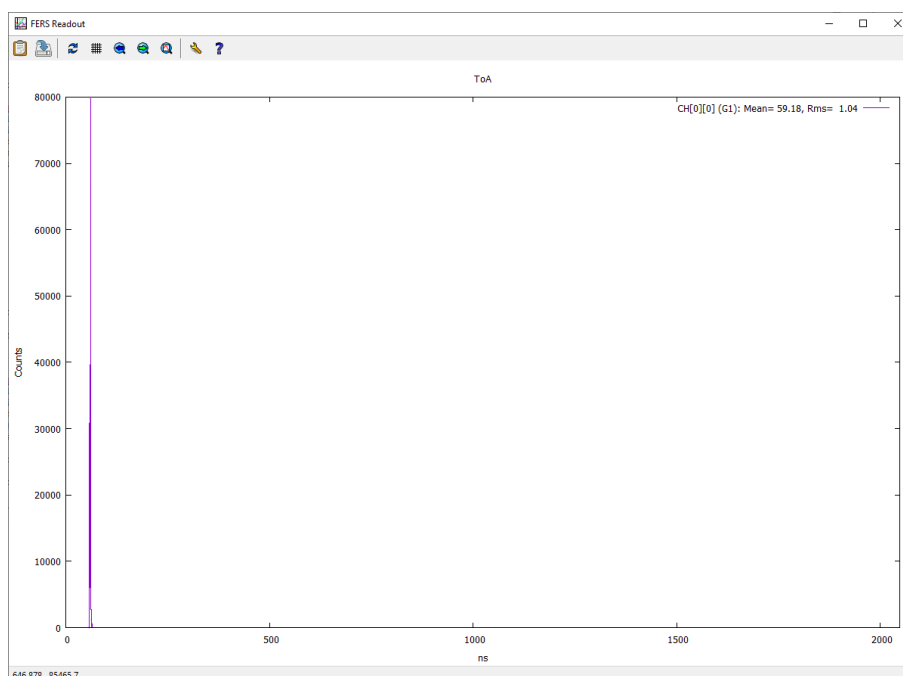

Fig. 10.29: Example of Time of Arrival (ToA) spectrum obtained with the internal pulser.
8. Press the Start button. A spectrum similar to that in Fig. 10.29 will be displayed.